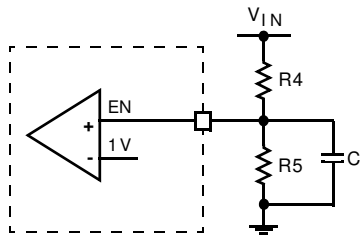

FIGURE 38. EXTERNAL RESISTOR DIVIDER
When the input voltage is below the undervoltage lock-out (UVLO) threshold, the regulator is disabled. To adjust the voltage level of power on and UVLO, use a resistive divider across EN. The input voltage programming resistor R_4 will depend on the bottom resistor R_5 , as referred to in Figure 38. The value of R_5 is typically between 10k Ω and 100k Ω .
The enable (EN) input allows the user to control the turning on or off the regulator for purposes such as power-up sequencing. When the regulator is enabled, there is typically a 600 μ s delay for waking up the bandgap reference and then the soft-start-up begins. It is recommended that the EN voltage should be kept logic low (less than 400mV), until V_{IN} reaches 2.5V. Refer to Figures 38 and 39 for suggested circuit implementation with V_{IN} slew rate.